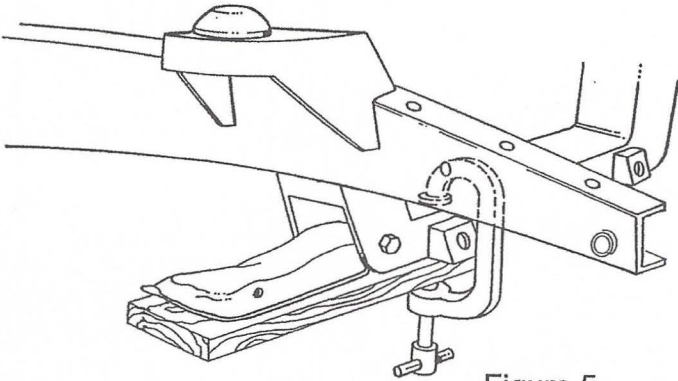

Figure 5
10. If you are using factory lower control arms and strut rods you will continue here. Use the lower control arm and strut rod for locating the rear strut rod supports and gussets. Using a 2 x 4 and a C-clamp, install the control arm as shown in Figure 5.